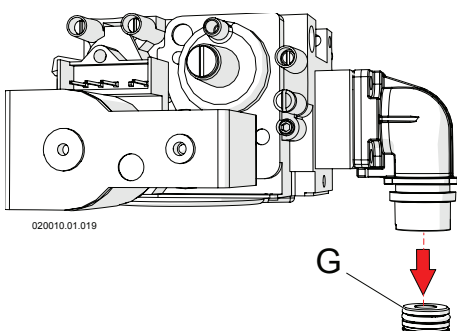

Figure 13-4 - Replacing gas orifice
- 7.- Replace nozzle "G" in Figure 13-4 with the one in the kit, checking it corresponds in diameter to that shown in Figure 13-8;